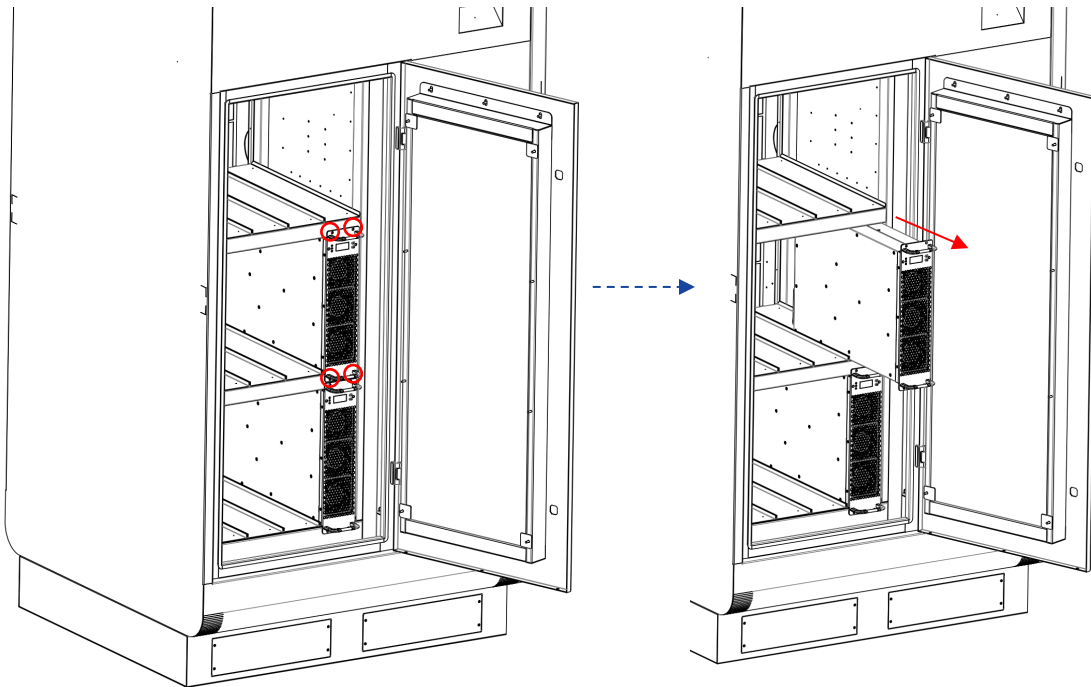

Figure 5.3 Uninstalling Charging Modules from **TCHARGE®** UDC 360 DCFC Charger
- 2) Unfasten the 4 screws holding the power module from the front (red circles in Figure 5.3 left) to detach the power module you want to uninstall.
- 3) Slide the power module out of its berth (Figure 5.3 right). Please note that **the power modules are heavy and measure about 33 pounds each**. Plan well in advance to handle the power modules appropriately and carefully.